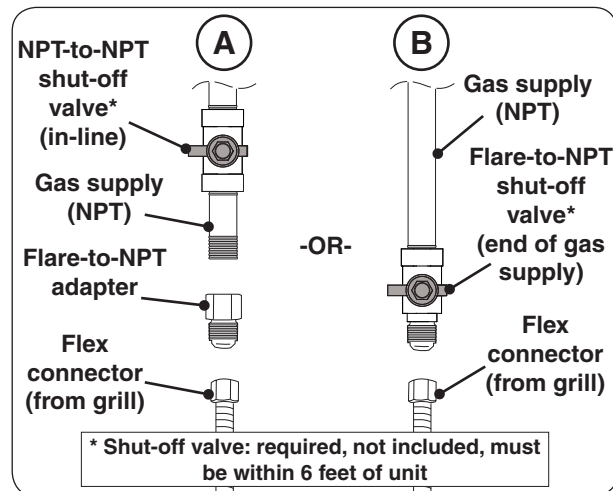

Fig. 21-3 Connecting to a gas line
- Install the supplied flare-to-NPT adapter to the gas supply (NPT) using a pipe joint compound resistant to all gasses (see Fig. 21-3, A). Tighten securely.
- Connect the flex connector to the adapter (see Fig. 21-3, A). Tighten securely.
- Connect the flex connector to the shut-off valve (flare) (see Fig. 21-3, B). Tighten securely.